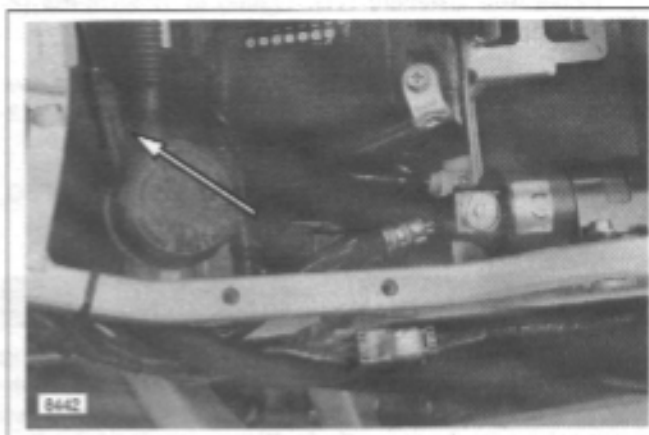

Figure 2-48. Brake Line Switch Connector
3. See Figure 2-48. Disconnect brake line connector from under seat in the front of the battery.